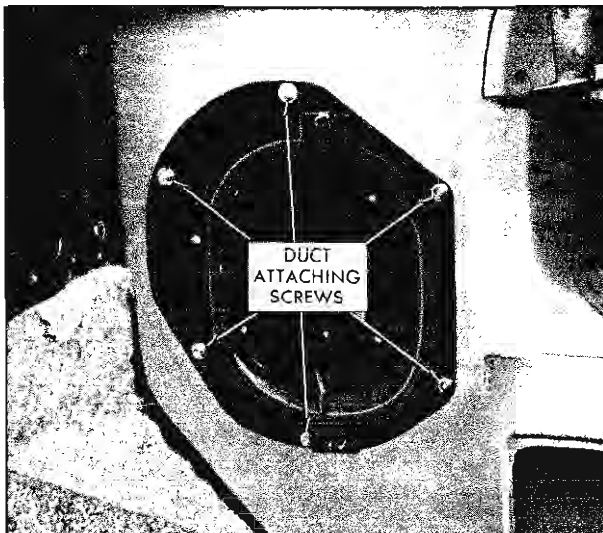

Fig. 11-27 Air Outlet Door
2. Remove screws securing outlet to shroud panel, disengage cable from pin on door and remove outlet (Fig. 11-27).
2. Remove end of control cable from door pin (Fig. 11-27).